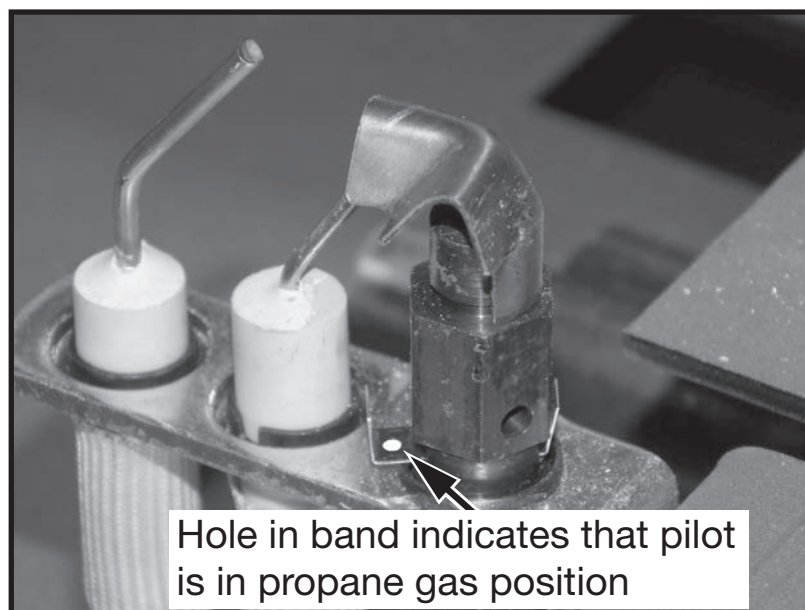

Figure 40: Pilot band in propane gas position.
5. Slide the pilot adjustment band over (Figure 40) and ensure that the hole in the orifice band is showing.